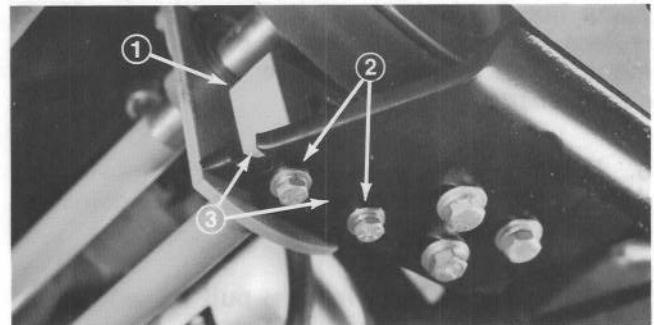

Figure 79
4. Remove two capscrews, and lockwashers securing bearing hub and shim to bracket (Fig. 79).
Note: If belt stretches, pivot block may be repositioned on bracket using additional set of mounting holes. Remove capscrews, lockwashers and flatwashers securing pivot block and shim to bracket. Relocate pivot block and shim and resecure to bracket with fasteners removed (Fig. 79).